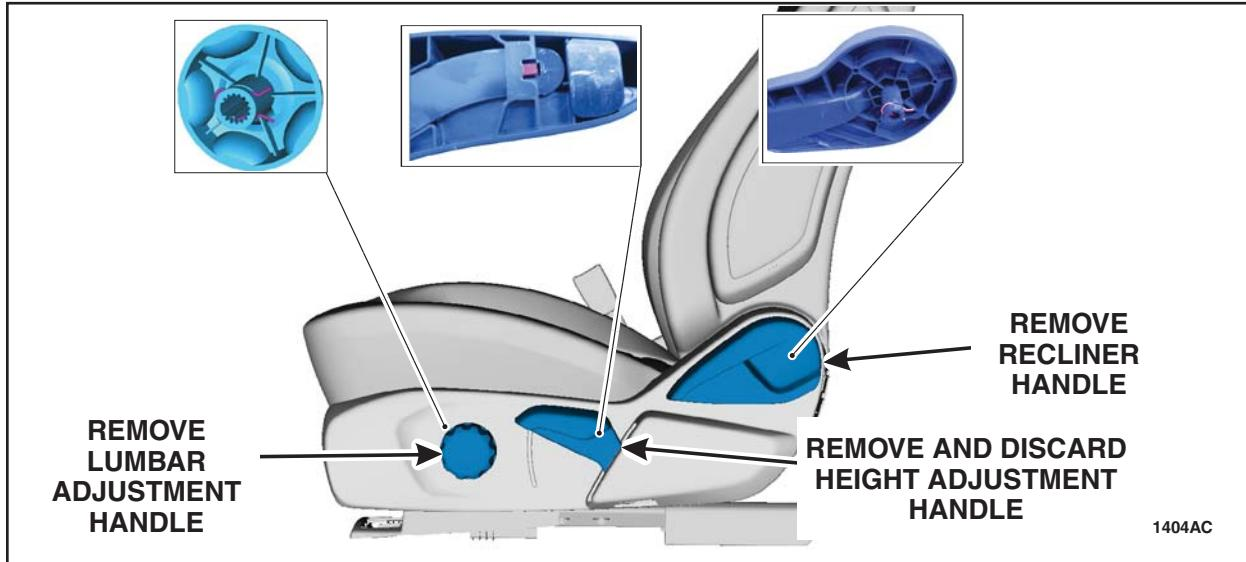

FIGURE 9
12. If equipped, remove the lumbar adjustment, the height adjustment and seat recliner handles. Discard the height adjustment handle. See figure 9.